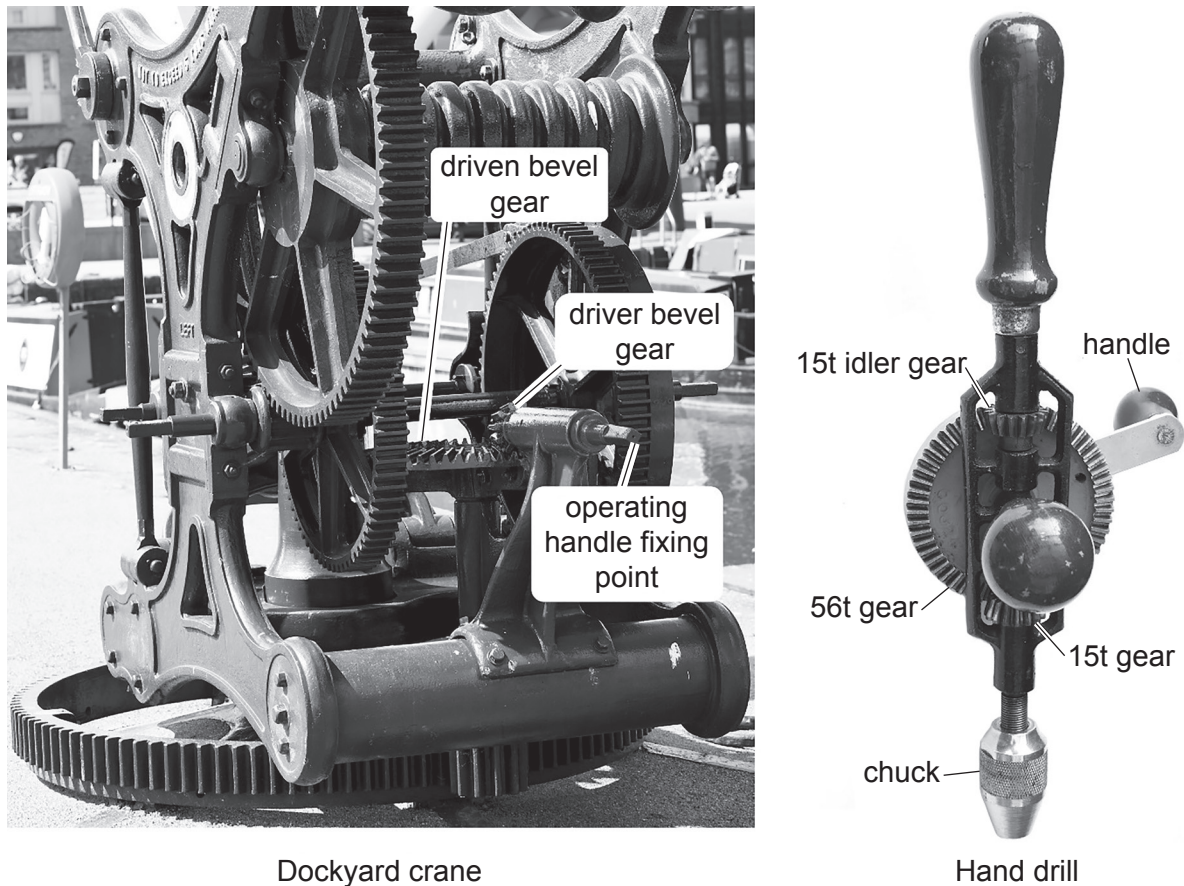

Fig. 11.1
11 (a) Fig. 11.1 shows two uses for bevel gears.
- (i) Use the terms below to complete the description of what is happening in the two examples in Fig. 11.1.
- (iii) In both examples in Fig. 11.1 the operational conditions could affect the working life of the gears.